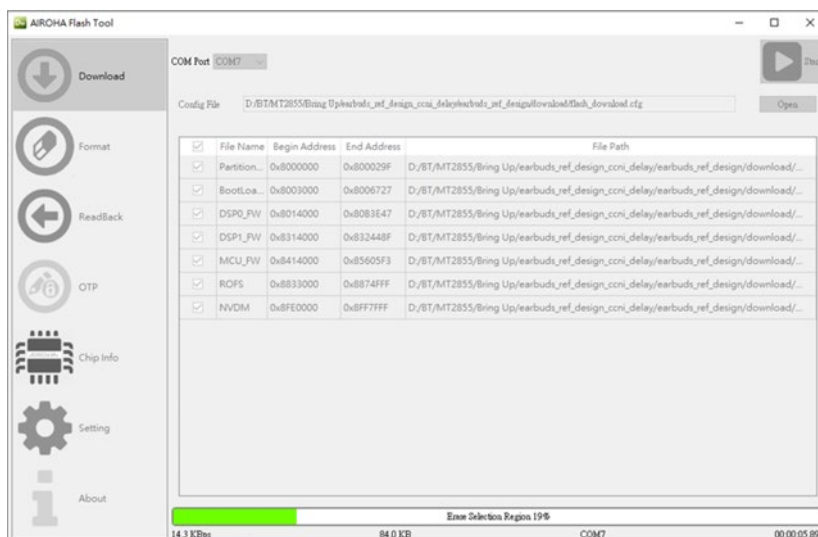

Figure 5-4. Downloading the Flash File
- Set the UART / USB on the board, as shown in Figure 5-4.